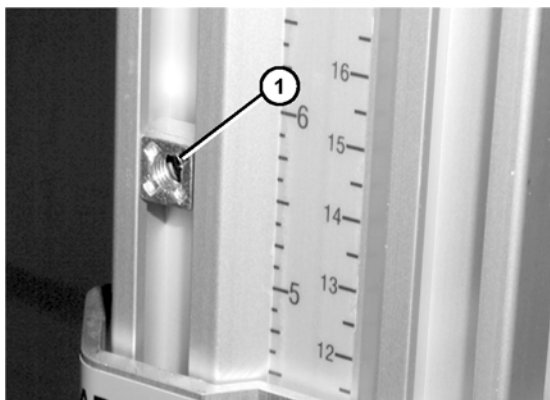

Figure 5
1. Install spring t-nuts (Figure 5, item 1) into stand t-slot.